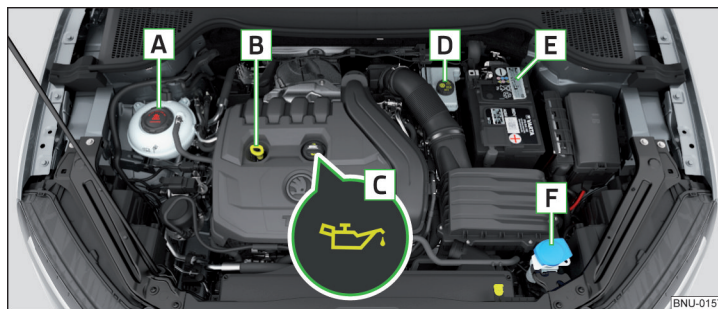

Fig. 306 Arrangement example in the engine compartment
- ▶ Unscrew the cap of the engine oil filler opening **C** » Fig. 306 on page 268. ▶